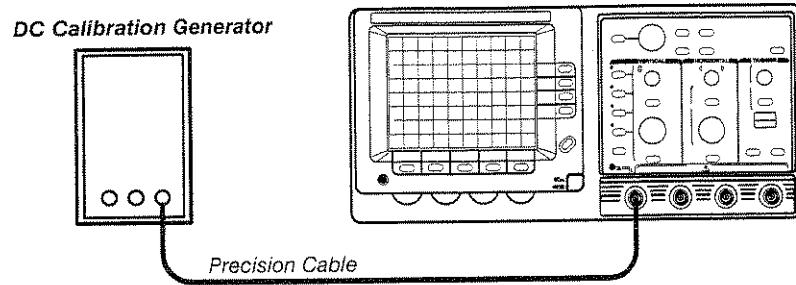

Figure 6-7: Trigger Level Test Setup
- Connect the DC calibration generator to the **CH 1** input as shown in Figure 6-7.